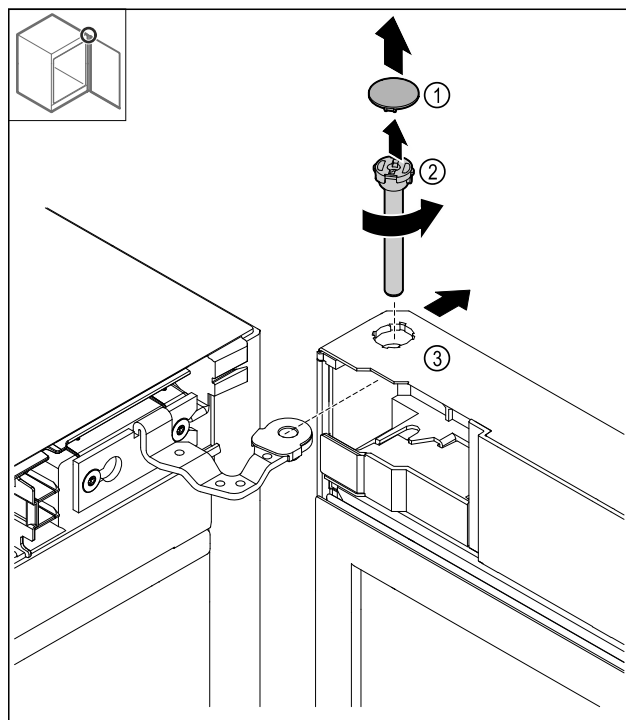

Fig. 18
- Take off the Fig. 18 (1) cover.
- Unscrew the pin Fig. 18 (2) counterclockwise and pull it out.
- Tilt the door Fig. 18 (3) slightly.